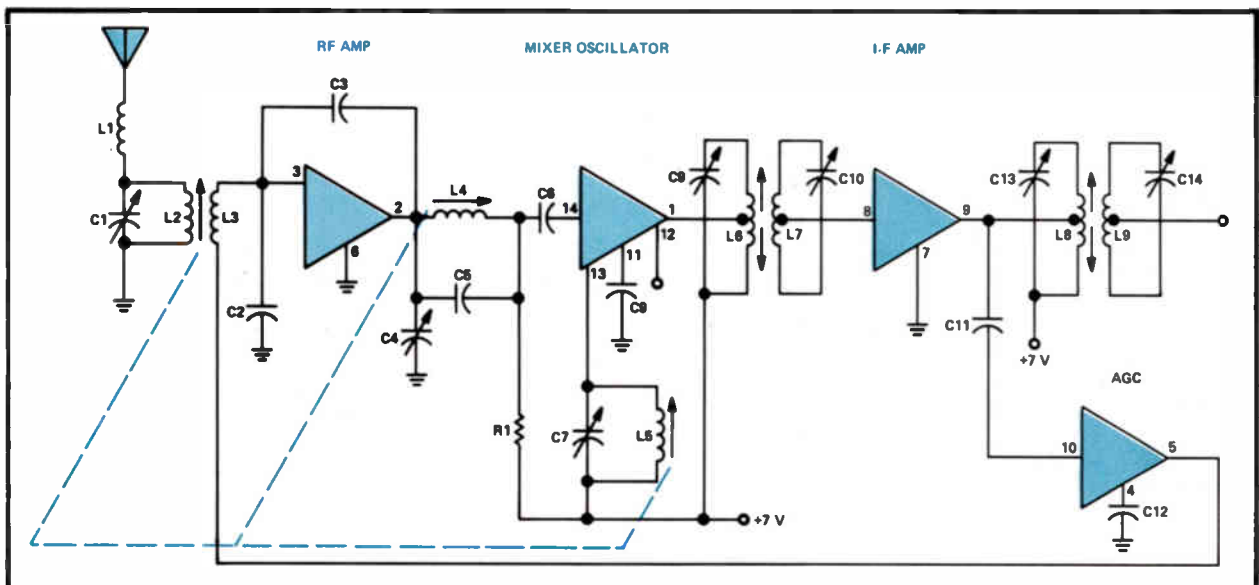

Figure 29. In the circuit shown, a single IC contains the rf amplifier, the mixer-oscillator, the i-f amplifier, and the agc.
In Fig.29 we show what can be accomplished with a single integrated circuit. Here, we have a 14-pin IC that is used as the rf amplifier, the mixer-oscillator, the i-f amplifier, the agc detector, and the agc amplifier. In fact, this IC could be used along with a diode as a detector and the IC shown in Fig.17 to form a complete receiver.
ICs such as the one shown in Fig.29 are widely used because they are relatively inexpensive to manufacture. The assembly of the equipment is simple because the one part replaces a number of discrete parts.
- 29 How many integrated circuits are used in the circuit shown in Fig.29?